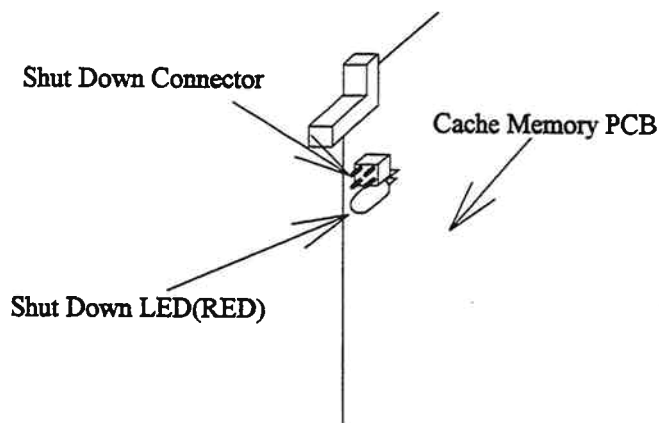

Fig. 3.3.7.9.2-1 Location of the Shut Down LED
- a. While referring to Fig. 3.3.7.9.2-1 and Table 3.3.7.9.2-1, check the Shut Down LED on the Cache Memory PCB in the Logic Box. See "Connection of Shut Down Jumper (INST03-2600)" if the Shut Down LED is not on. (This procedure [1. a.] is not valid for a New Installation.)